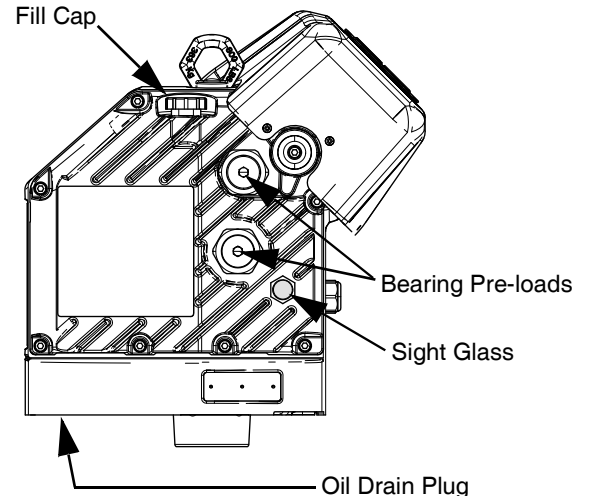

Fig. 13: Sight Glass and Oil Fill Cap
3. Remove the oil drain plug. See **Figure 13** for the location of the drain plug. Allow all oil to drain from the driver.
Refer to **Figure 13** below. Check the oil level in the sight glass on a regular basis. The oil level should be near the halfway point of the sight glass when the driver is not running. If the oil is low, open the fill cap and add Graco Part No. 16W645 ISO 220 silicone-free synthetic EP gear oil.